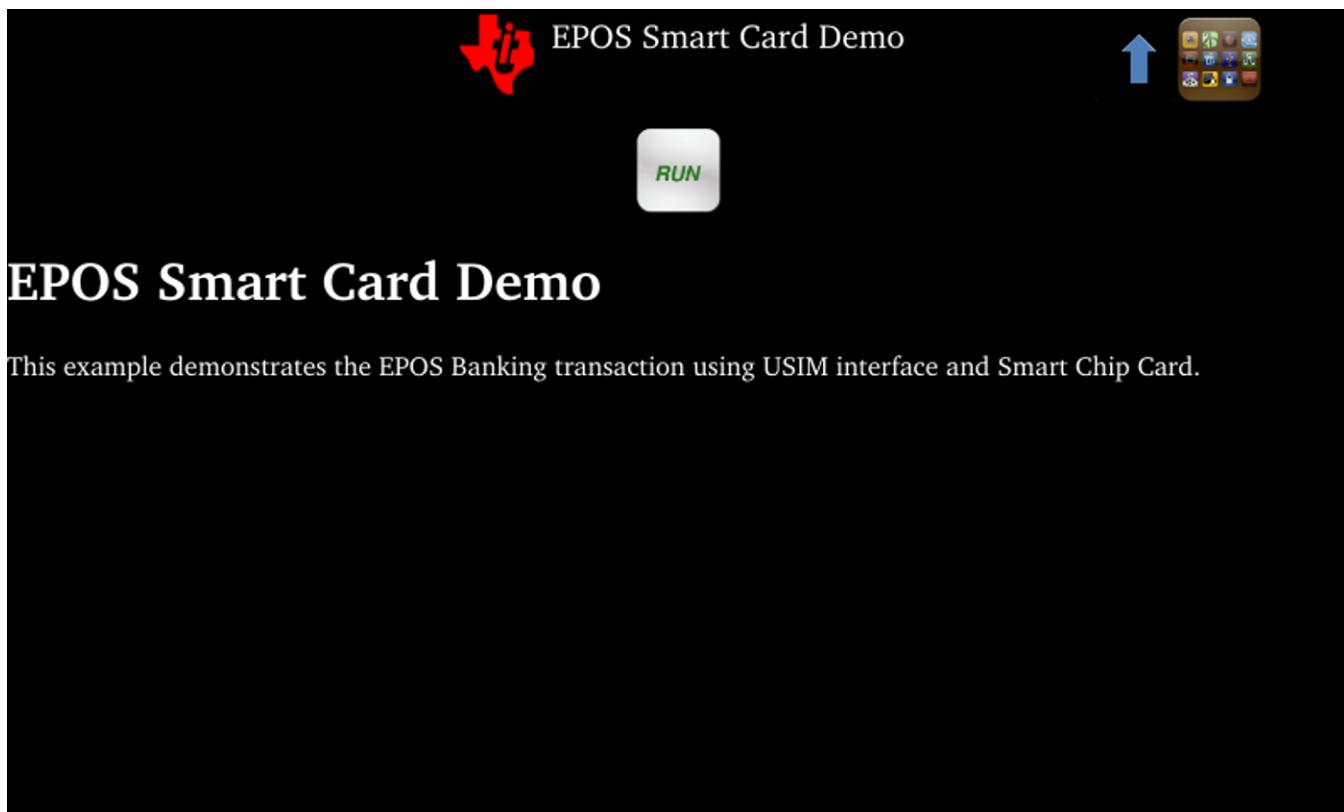

图 11. EPOS Smart Card Demo Home Screen
2. Select the EPOS Smart Card Demo App *RUN* utility (see 图 11).